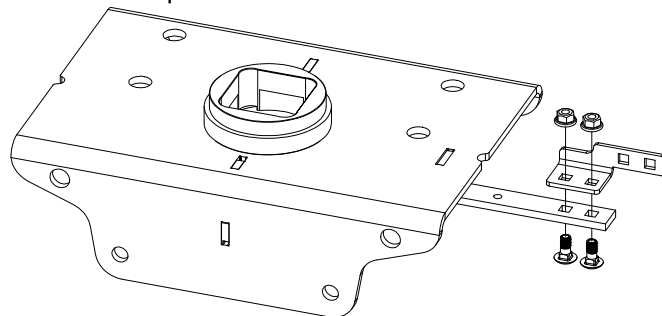

Figure D1: Center section with latch pin pulled out.
- Install latch pin handle bracket.** Locate the latch pin handle bracket, two 5/16" x 3/4" carriage bolts, and two 5/16" flange nuts. Pull the handle out all the way until it stops then slide it forward to keep it in place. Install the latch pin handle bracket in the orientation shown in Figure D1. Attach the bracket using the 5/16" hardware. Align the bracket with the latch pin. The carriage bolts must be installed from the bottom up as shown. Torque the nuts to 30 ft. lbs.